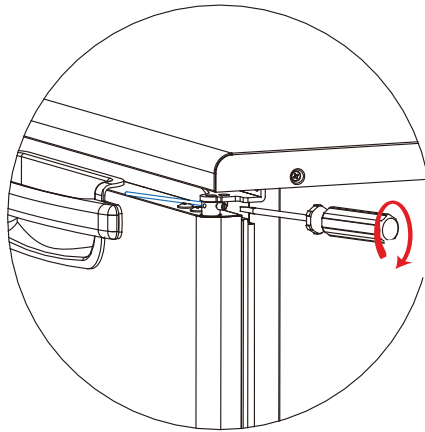

Fig 9-31
5. Turn and drive the tension pin into the next step hole. (Fig 9-31)